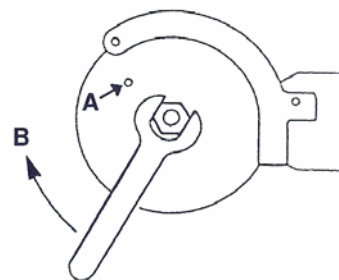

Figure 5: Fixing the saw blade
5. Insert the retention pin as a twist lock into the saw blade bore and the bore below (A) (see Fig. 5).
6. Tighten the hex. nut securely - turn in clockwise direction (arrow B) and tighten to approx. 50 Nm (see Fig. 5).